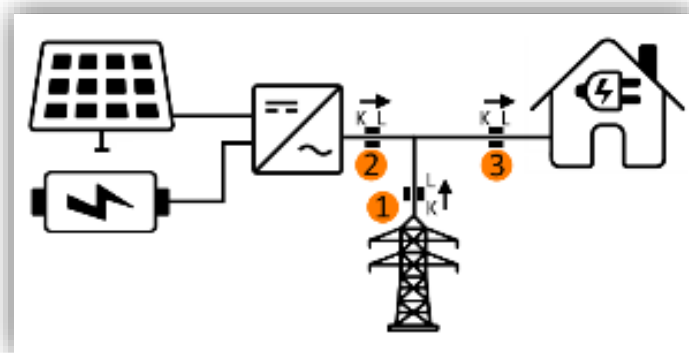

Figure 107. Installation diagram with solar panels and battery
This section defines the points of the installation where the measurements must be taken in order to have a correct operation of the global tab of the energy monitor. Figure 107 shows the diagram of an installation with solar panels and battery:
- **Installation without solar panels or battery:** only point 1 shown in the diagram in Figure 107.